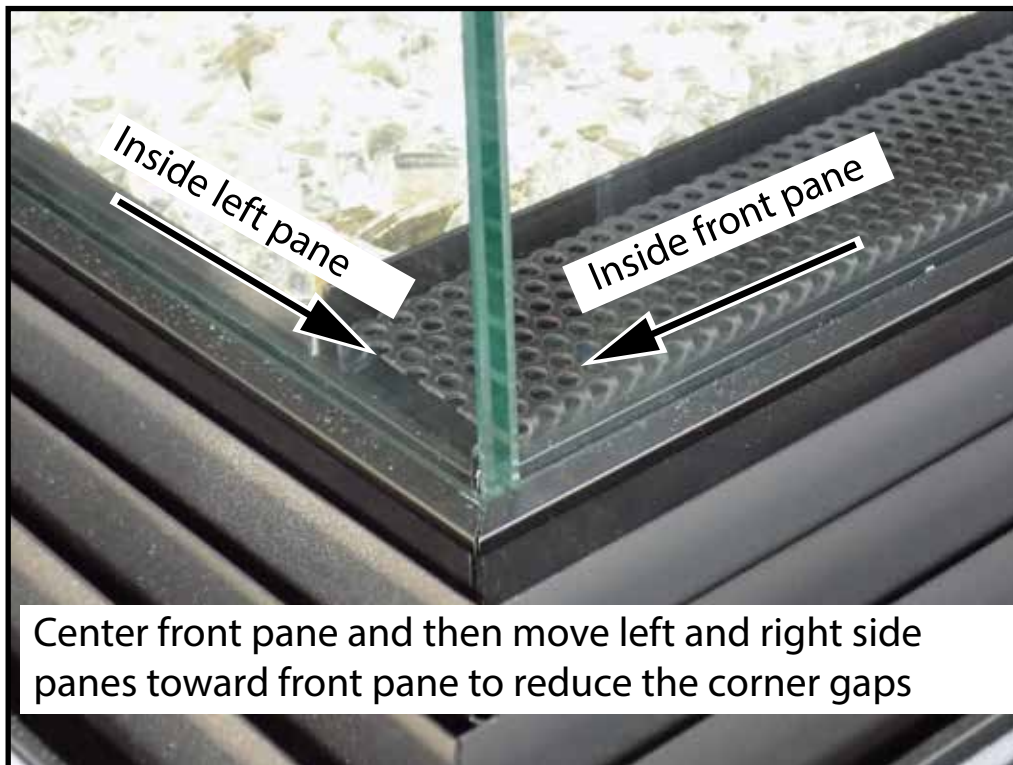

Figure 47: Final position of inside glass panes.
4. Using a suction glass handle, gently shift the inside left and right hand glass plates forward in their slots until they just touch the front plate (Figure 47).